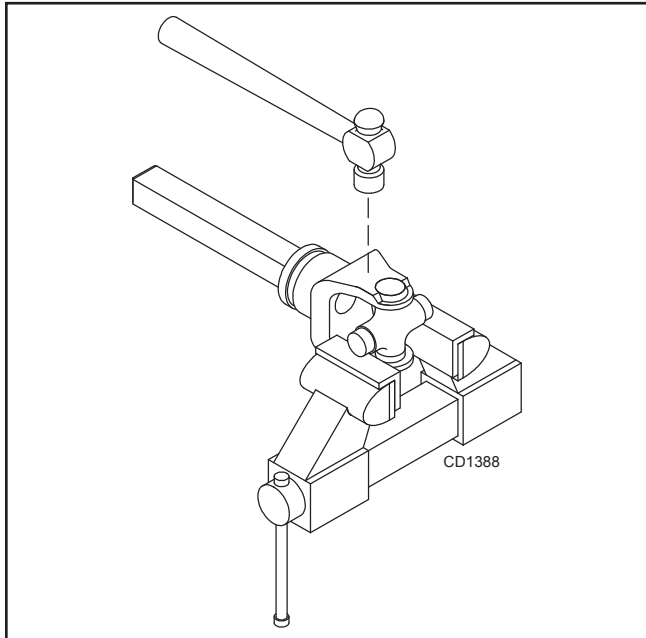

Figure 20.
- Place universal cross in vise as shown in Figure 20 and tap on yoke to remove cup. Repeat Step 3 for final removal. Drive remaining cup out with a drift and hammer.